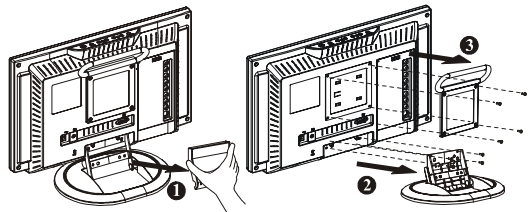

Figure 1-4
1. Remove the rear cover from neck ❶ (See Figure 1-4)
2. Unscrew screws of the hinge bracket ❷
3. Remove the stand from main body ❸
Before installing to mounting device, refer to Fig.1-4.